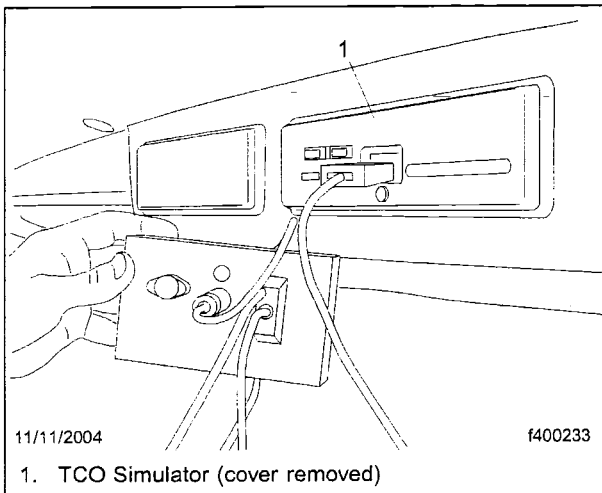

Fig. 5, Adapter II Connected to TCO Simulator
- 2.2 Connect the Adapter II to the TCO simulator. See **Fig. 5**.